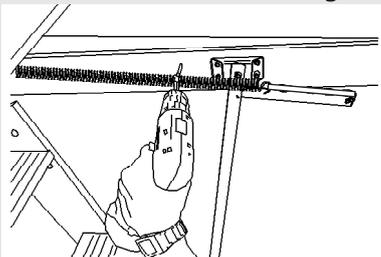

fig 14
7. With the stairs open screw through the holes you previously drilled in the side frame into the ceiling frame (figure 14). Do not fit tight yet.